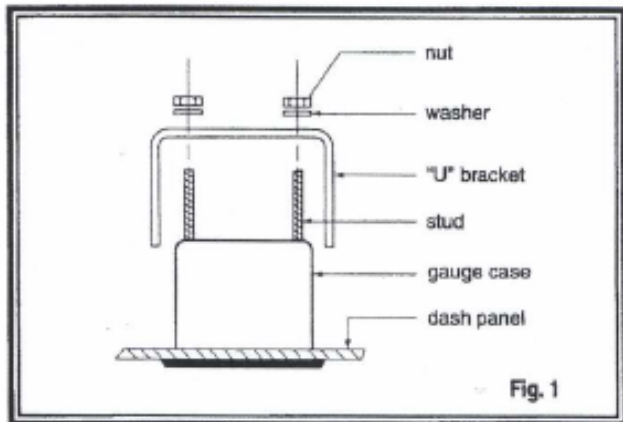

Fig. 1
2. Cut 2-1/16" (52 mm) diameter holes for the smaller gauges. Check gauges into holes for fit. Open hardware package and place the proper "U" bracket over the mounting studs on the back of the gauge. (See Fig. 1) The "U" bracket is made for panels up to 1/2" (13 mm) thick. For thicker panels, trim the bracket legs as required.